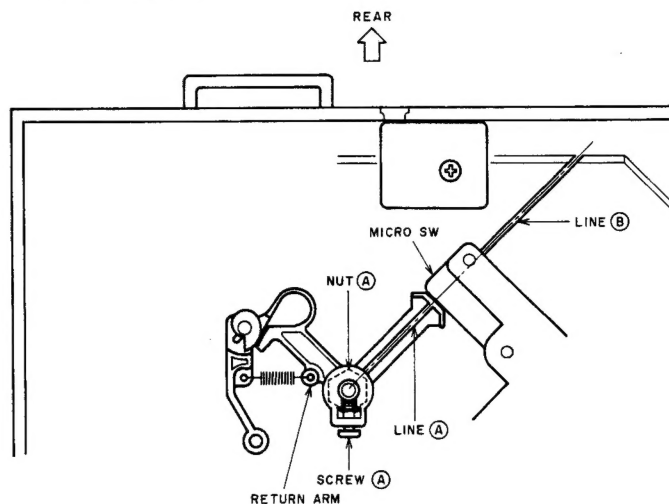

Fig. 6-2
- 2) Confirm that RETURN ARM is installed all the way in to the nut (A).
- 3) May loosen the screw (A) a little and turn the RETURN ARM so that the line (A) on the RETURN ARM is aligned with the line (B) on the cabinet as shown in Fig. 6-2, then tighten the screw (A).